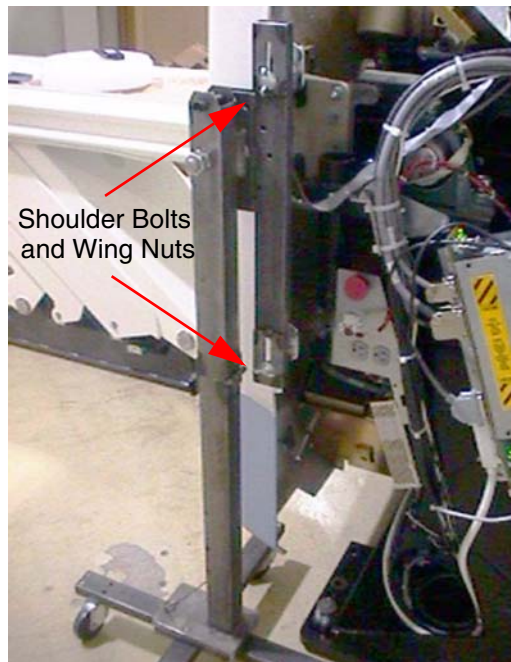

Figure A-10 Front Side Dolly
- a.) Tighten the two (2) shoulder bolts to the gantry securely. This will make cover installation easier. See Figure A-10.